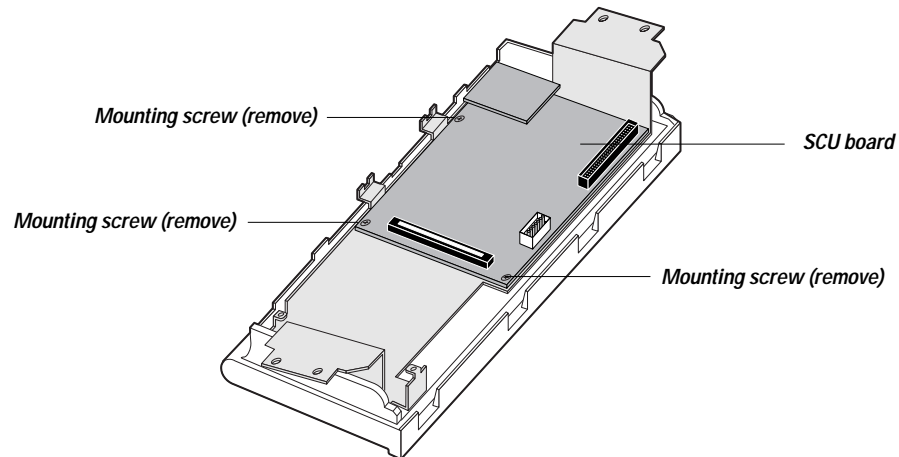

Figure 2-10 Removing SCU board mounting screws
2. **Remove three of the mounting screws that secure the SCU board to the Operation Panel (see Figure 2-10 on page 2-12).**